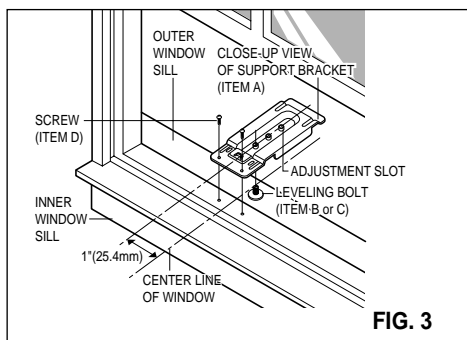

FIG. 3
- 3** Install support bracket on window. See FIG. 3. Install leveling bolt up through bottom side of support bracket. You can choose a short bolt (ITEM C) or a long one (ITEM B) according to window type. Also, you should select the position of hole on bracket. Position bracket on sill 1 inch (25.4mm) to left of center line of window (See FIG. 3). Fasten bracket loosely to sill with screws (ITEM D) provided. Adjust leveling bolt so that the air conditioner will be installed with a very slight tilt (about 1/4") downward toward the outside for proper drainage. Tighten bracket screws.